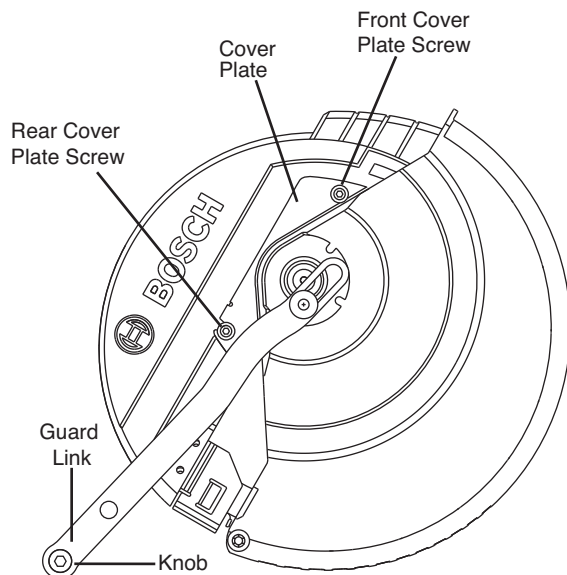
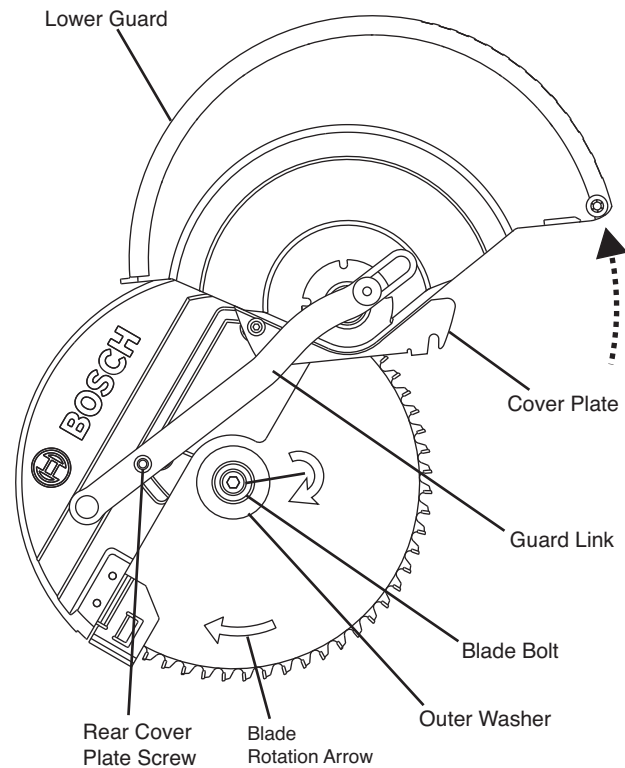

Figure 3
Figure 4
1. Position the saw in the UP position and at 0° bevel. If in the DOWN position, press down slightly on the saw head assembly and pull out the head assembly lock pin (item 43, page 12); then allow the saw head to come up (see Figure 3).
2. Unscrew the link knob (item 28, page 12) by hand from the pivot post and allow the link assembly to hang. The link knob will stay on the link.
5. Slide the cover plate down and out from the rear screw. Rotate the cover plate and lower guard counterclockwise around the front screw. While holding the lower guard up against the upper guard, move the link so its round hole can go over the rear screw – let go and the lower guard assembly will be held out of the way (see Figure 4).
2. Carefully handle the new blade. Check that the rotation arrow on the blade matches the rotation arrow on the lower guard. Slide the blade up and between the sides of the chip deflector and over the arbor shaft. Move the blade so its arbor hole goes around the support ring of the inner washer (see Figures 4 and 5).